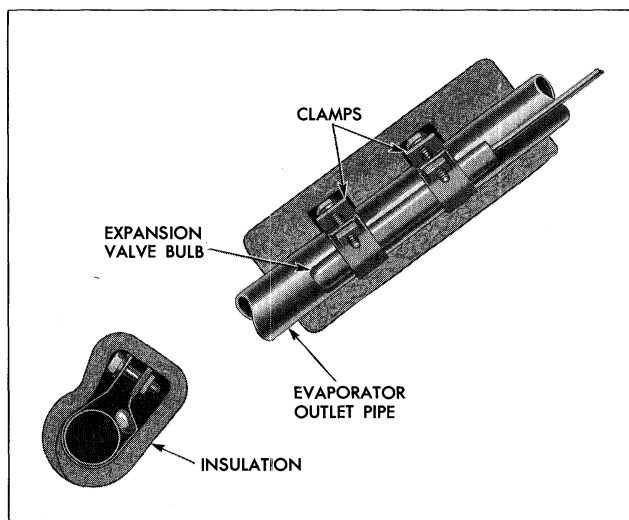

Fig. 5-39 Expansion Valve Bulb at Evaporator Outlet Pipe
3. Disconnect expansion valve capillary tube bulb at evaporator outlet pipe (Fig. 5-39).